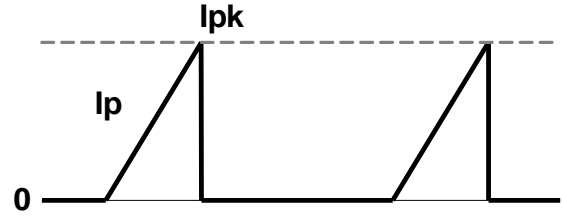

Figure 3: Primary Current Waveform
A current sense resistor (R_S) is used to sense the primary current $I_p(t)$ (see Figure 3). The current rises linearly at a rate shown in Equation (1):